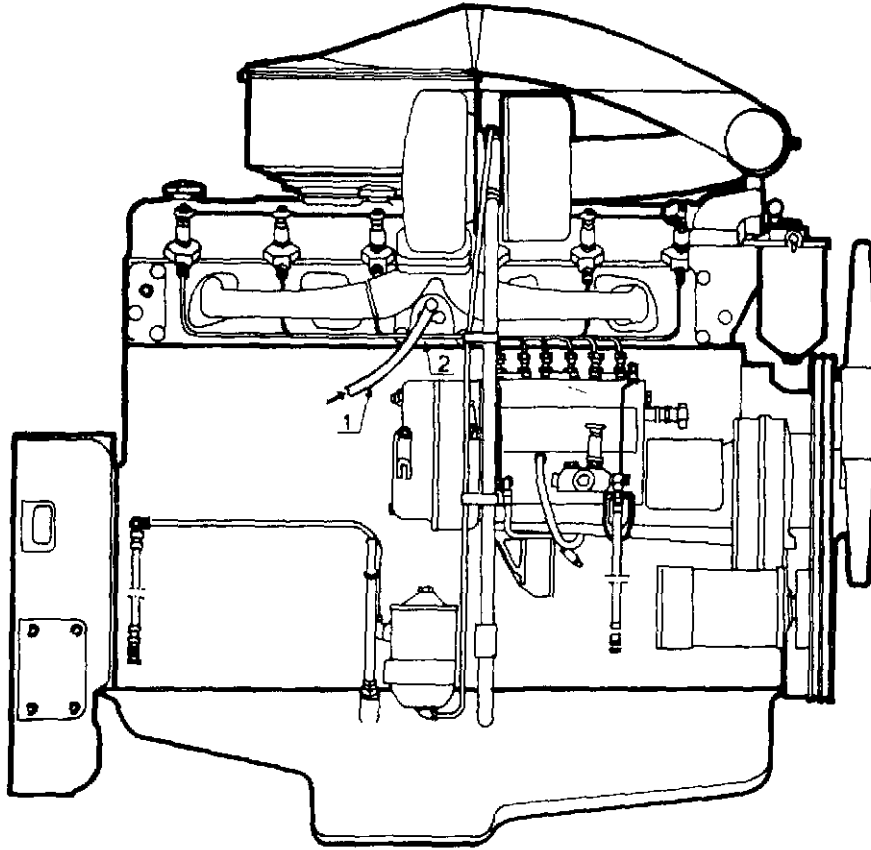
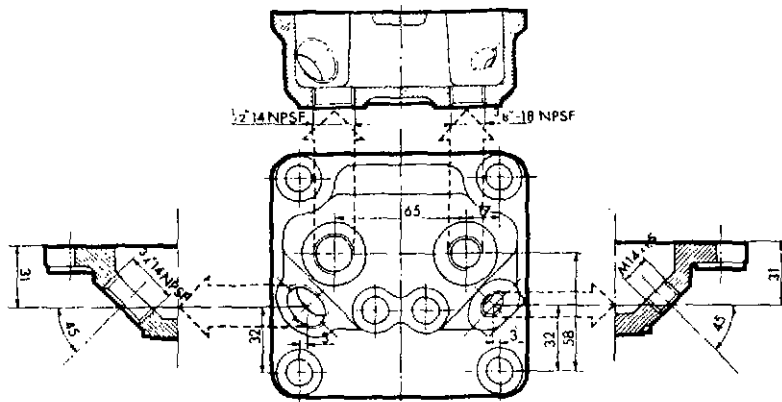

Fig. 1
Fig. 2
or Ironsmongers) and inject the oil into the fan via the pin control hole, figure 2. Inject a small quantity of oil at a time 1.3 cm³ depending upon the size of speed slip and check the result of this by repeating the speed control according to 2 above, whereby the engine does not need to be warmed up.
1. The warm water **from** the engine heater is supplied to the engine via water transfer flange part No. 178863 on the cylinder heads, see fig. 1 and 2. If necessary, drill and thread holes in the flange for connection nipple with inside diameter \varnothing 16 mm and outside diameter suitable for hose with \varnothing 19 mm inside diameter, see fig. 2. (All permissible hole locations with normal size dimensions have been drawn, as the requirements in respect of connection holes vary for different engine installations). The hose in question must not be placed too near the exhaust pipe as risk of damage by fire is likely.